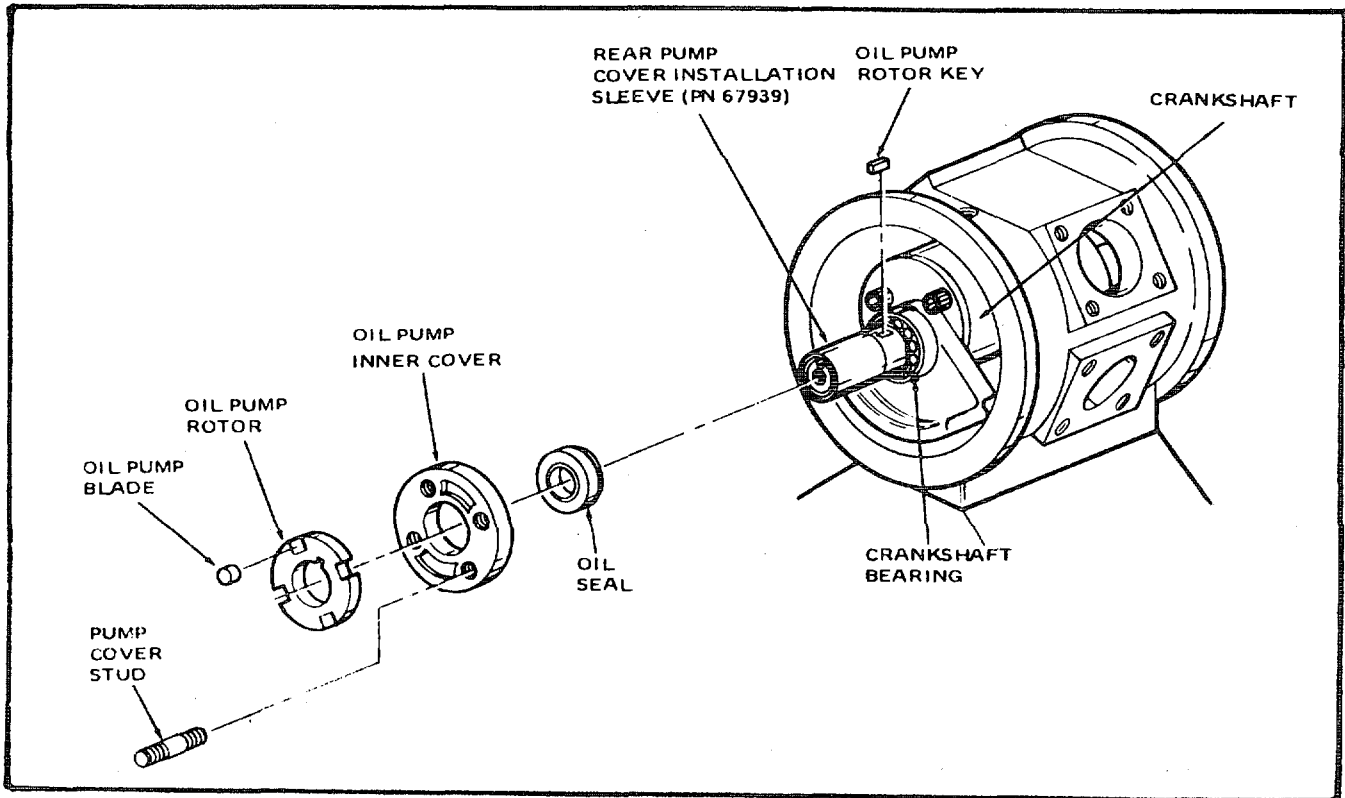

Figure 6-7. Non Drive End Cover, Oil Pump and Oil Seal Installation
- (1) Mount the oil sump (121) in a suitable holding fixture to start assembly. Assemble o-ring (124) in groove on sump. Assemble crankcase (127) to sump (121) and attach with three lock washers (123) and screws (122). If removed, attach serial number plate (125) to crankcase with screw (126). Assemble oil strainer (120) in sump.
- (2) If pipe plug (119) was removed from crankshaft (118) install the pipe plug (119). Place connecting rods (115, 116, and 117) in crankcase (127) with rod bearing ends through crankcase cylinder bores.
- (3) Assemble balance weight (112) to drive end of crankshaft (118) bearing journal with lock washers (114) and cap screws (113).
- (4) Heat drive end bearing (111) by immersing in oil heated to temperature of 350°F (177°C). Allow bearing to heat from five to ten minutes; then, assemble on crankshaft drive end journal with bearing inner race against shoulder of balance weight (112)
- (5) Assemble a new oil seal (110) in bore of drive end cover (104) flush with outer face and with sealing lip facing inward. Press three dowel pins (77) in end of crankshaft (118) leaving approximately half of pin protruding from crankshaft. Carefully assemble drive end cover (104) over bearing (113). Place new gasket (109) against end cover (104) flange aligning holes. Insert non-drive end of crankshaft (118) through drive end of crankcase and carefully through the connecting rods (115, 116, 117). Secure drive end cover (104) to crankcase (127) with lock washers (106, 108), one 1-1/4 inch long cap screw (107) and five 1-1/2 inch long cap screws (105).
- (6) Assemble drive ring gear (76) to flywheel (79) with lock washers (78) and cap screws (77). position flywheel gasket (83) on end of crankshaft over dowel pin (82) and carefully assemble flywheel (79) to end of crankshaft (118) with three lockwashers (81) and socket head cap screws (80).
(7) Assemble balance weight (112) to non-drive end of crankshaft rod journal with lock washers (114) and cap screws (113). Heat the non-drive end bearing (111) by immersing in oil heated to temperature of 350°F (177°C). Allow bearing to heat from live to ten minutes; then, assemble (01 crankshaft journal with inner race against shoulder of balance weight.
(8) See Figure 6-7. Using rear pump cover and seal tool (Table 2-1), assemble new oil seal (103), with seal lip facing towards bearing, onto crankshaft (118). Install four studs (102) in oil pump inner cover (101) with short threaded end in cover (101). Assemble cover (101) on crankcase. Install pump rotor key (100) in (118) keyway. Assemble oil pump rotor (98) over key (100) and install pump blades (99). Remove cover and seal tool.
(9) If end cover assembly (90) was disassembled, press in one bushing (96) to a depth of 1.3201.330 inch from face of boss on side of end cover (90), install o-ring (197), then press in the other bushing (96) to a depth of 0.780 0.790 inch from boss face. Position gasket (95) on flange of end cover (90) and assemble end cover to crankcase with oil relief valve boss located 90° from top, facing compressor non-drive end and aligning studs